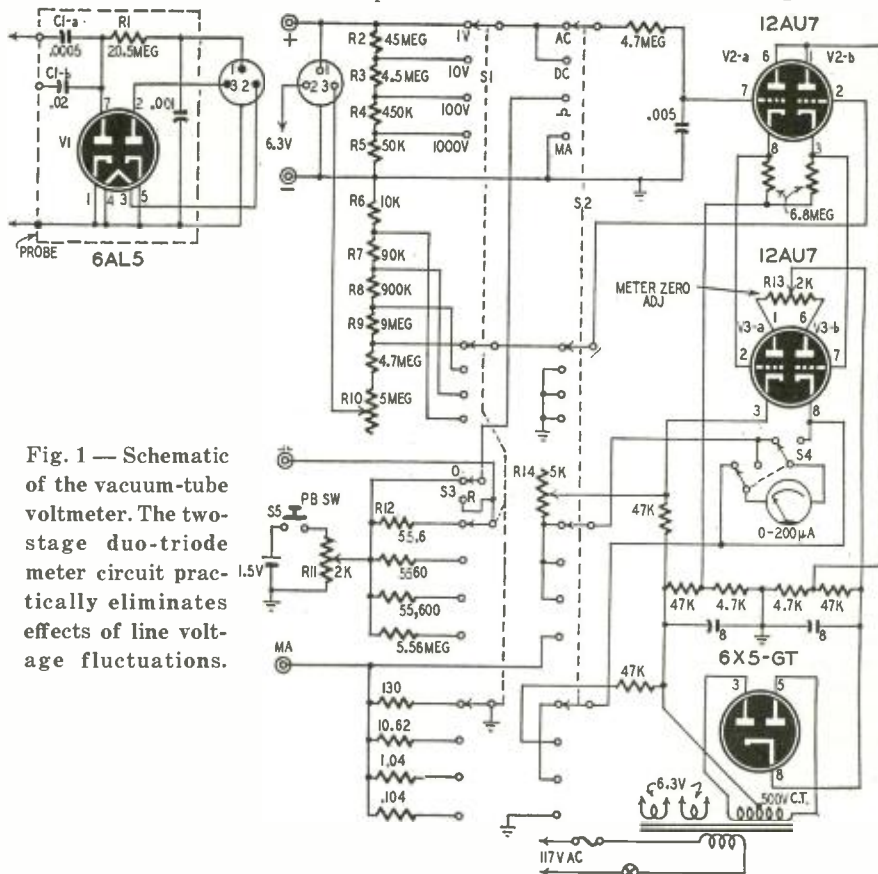

Fig. 1 — Schematic of the vacuum-tube voltmeter. The two-stage duo-triode meter circuit practically eliminates effects of line voltage fluctuations.
**A** SURPLUS 1D-24/ARN-9 glide path indicator has a meter movement that is easy to convert for use in a sensitive voltmeter circuit. The circuit, shown in Fig. 1, has 1-, 10-, 100-, and 1,000-volt scales a.c. and d.c., with provisions for cancelling grid current and tube variation effects and a.c. probe diode contact potential. The instrument also serves as an ohmmeter with resistance readings up to 50 megohms, and as a milliammeter with full-scale readings of 1, 10, 100, and 1,000 ma.